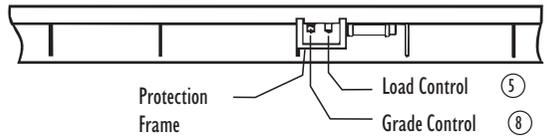
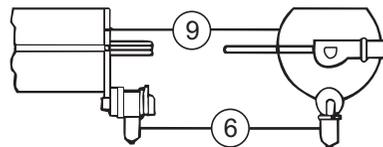

Figure 3
Figure 4
2. Glue the triple valve (6) to the brake cylinder (9) as shown in Figure 4 and glue the brake cylinder to its base. Glue the other brake components onto the underframe and glue the protection frames to the wagon sides, as shown in Figure 3.